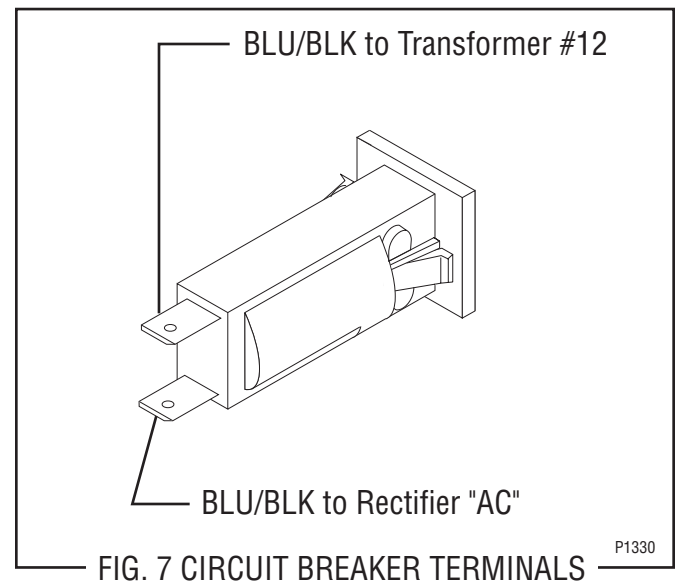

FIG. 7 CIRCUIT BREAKER TERMINALS
5. Refer to Fig. 7 when reconnecting the wires.